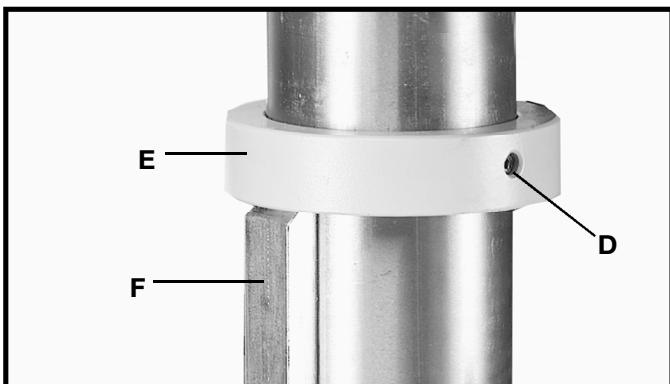

Fig. 9
5. Re-assemble ring (E) Fig. 9, which was removed in **STEP 1. IMPORTANT:** Bottom of ring (E) **MUST NOT** be pushed all the way down onto top of raising rack (F). **MAKE SURE** top of raising rack (F) is under bottom of ring (E) and that there is enough clearance to allow rack (F) to rotate around the column. **THEN TIGHTEN SET SCREW (D)** **BEING CAREFUL NOT TO OVERTIGHTEN.**